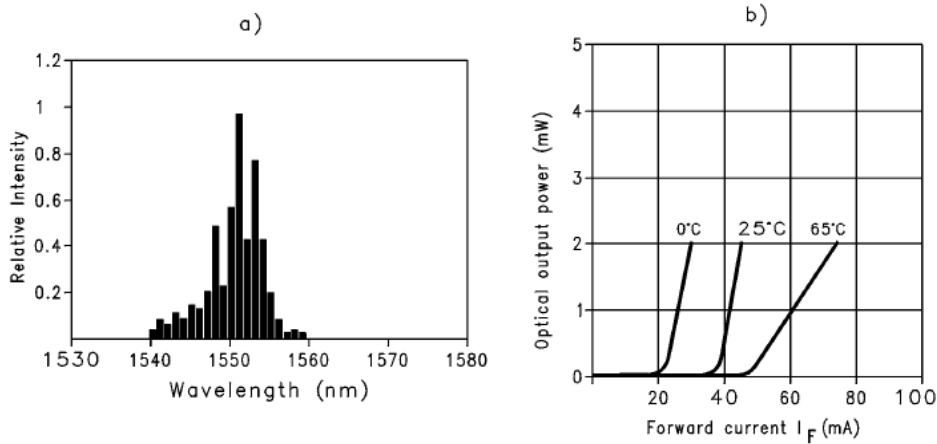

fig. 5.3 LASER diode characteristic parameters
The electron-hole recombination phenomena is not the only way to generate photons, i.e. light radiation. If a photon with proper power strikes an excited atom, it can cause the emission of another photon: this is the so called *stimulated emission*. The characteristic of the new emitted photon is to be in phase with the incident one and to have practically equal frequency, which sets the bases to obtain a radiation amplification effect. The LASER diode (LD) is based on the last principles. The stimulated emission is made possible thanks to a higher doping in respect to the LEDs and to some constructional expedients, such as a positive reaction of a part of the emitted light inside the active zone started by reflection. The fact that incident photon and emitted photon have practically the same frequency makes the spectrum emitted by the LASER much narrower than the one emitted by the LED. The characteristic parameters of the LASER diodes are the same of the LEDs. Fig. 5.3 shows the graphs related to the emitted power and the spectral width of a LASER diode. In respect to the LED the following advantages must be underlined: